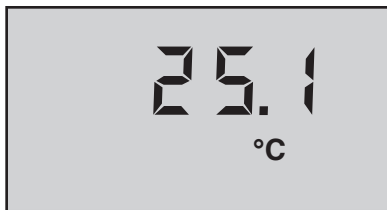

Figure 43
9. The temperature value measured by the 6Psi and “°C” or “°F” will display (see example in Figure 43).